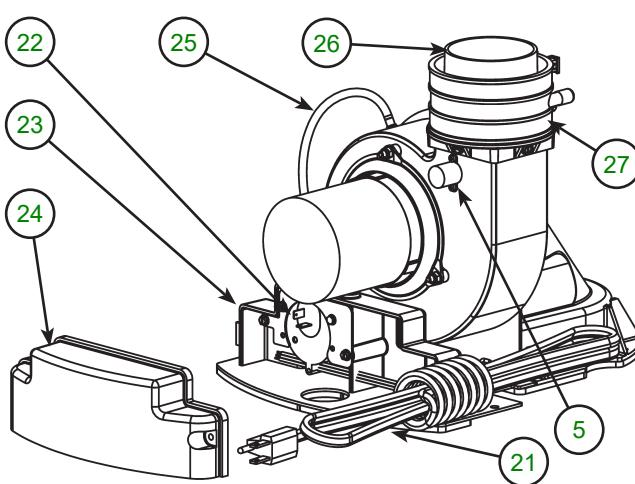

**Figure 57.**
- 14 Manifold Door Assembly (behind outer door) (see Figure 3 and Figure 4) (see also Figure 57 and Figure 58)
- 32 Flexible Manifold Tube (see Figure 3 and Figure 4) (see also Figure 57 and Figure 58)
- 34 Flame Sensor Rod (see Figure 3 and Figure 4) (see also Figure 57 and Figure 58)
- 35 Gas Orifice (see Figure 3 and Figure 4) (see also Figure 57 and Figure 58)
- 36 Sheet Metal Burner (see Figure 3 and Figure 4) (see also Figure 57 and Figure 58)
- 37 Gas Manifold (see Figure 3 and Figure 4) (see also Figure 57 and Figure 58)
- 38 Hot-Surface Igniter (see Figure 3 and Figure 4) (see also Figure 57 and Figure 58)
- 39 Manifold Door Gasket (see Figure 3 and Figure 4) (see also Figure 57 and Figure 58)
- 40 Manifold Door (see Figure 3 and Figure 4) (see also Figure 57 and Figure 58)
- 41 Two Piece Grommet With Clip (see Figure 3 and Figure 4) (see also Figure 57 and Figure 58)